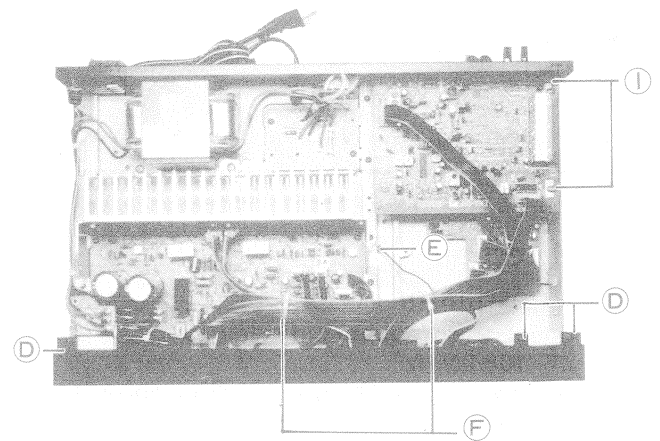

Fig. 2
5. Remove the screw (B). See Fig. 2.
Remove the 3 screws (H) on the rear panel and the 2 screws (I) holding the tuner pc board. See Fig.2 & 4.